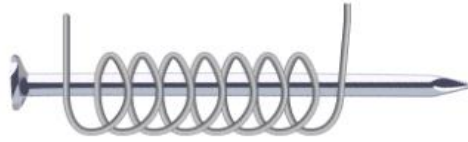

Fig. 1.57 Copper wire is wound around the iron nail
Step 1. Take a nail and wound a copper wire around it. Figure 1.57 illustrates copper wire wound around an iron nail.